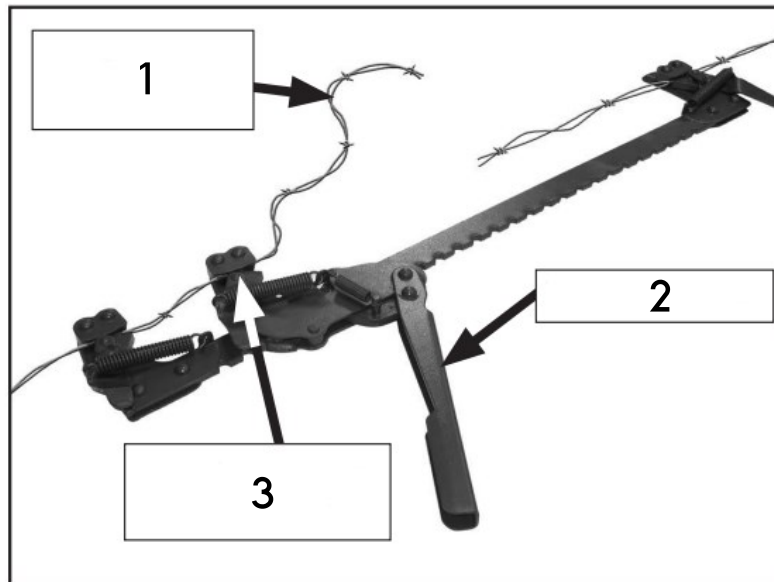

Figure 6
2. Compensate excess slackness of the wire, then clamp the wire in the mobile hook of the clamping jaw (Fig. 6).